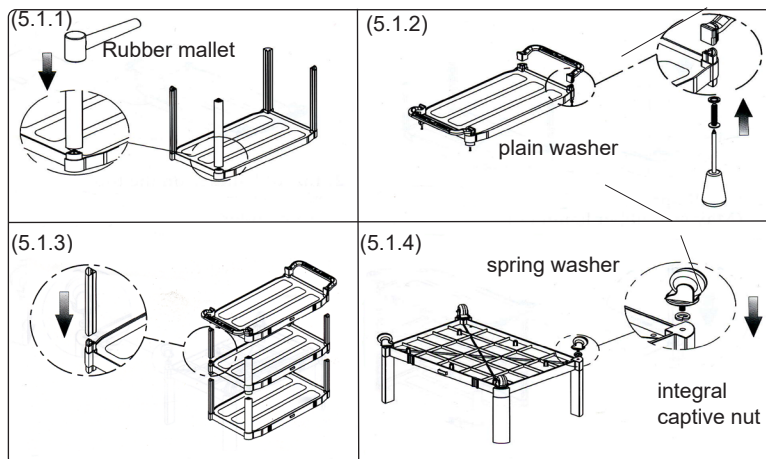

fig1.
5.1 Assemble on a bench protecting against scratches, following sequence in fig1.